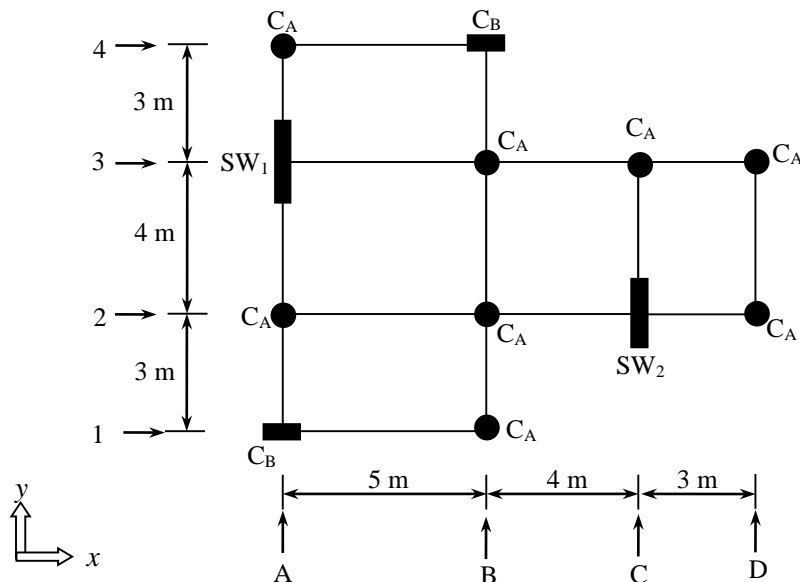

Figure 1
**Q.1 (a)** Figure 1 shows the layout of a typical floor of a 10 storied building. **07**